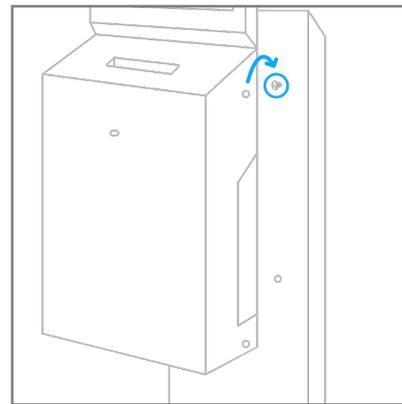

Figure 05.
Step 2: Carefully hang the Swift UV on the two upper screws taking care to align them with the two mounting points on the back of the Swift UV (Figure 05.).